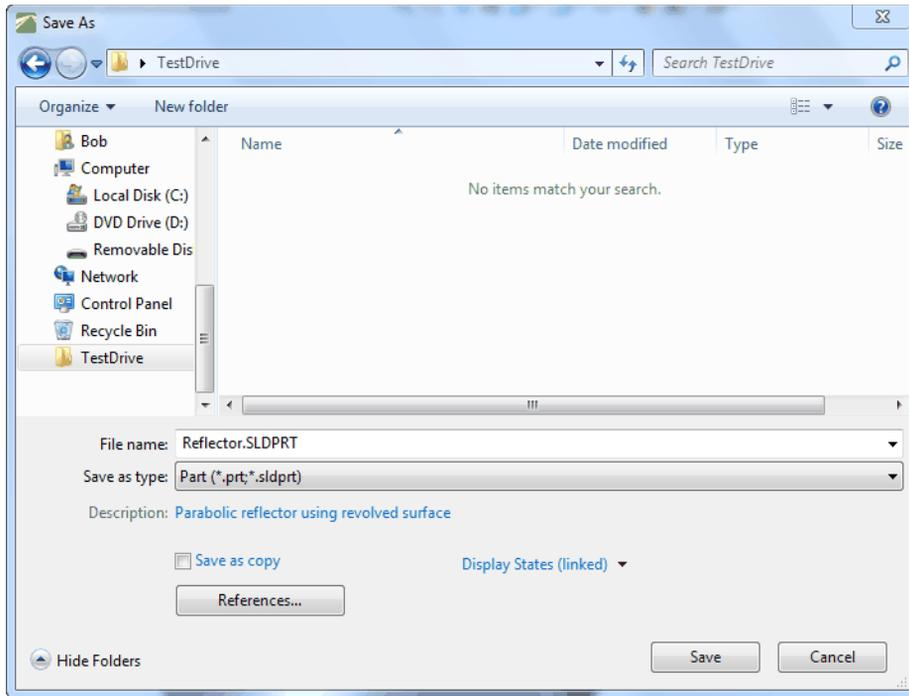

Figure 38 Save As dialog box (Windows 7)
- 7 Add a description for the surface (Windows 7), and click **Save**. See Figure 38.